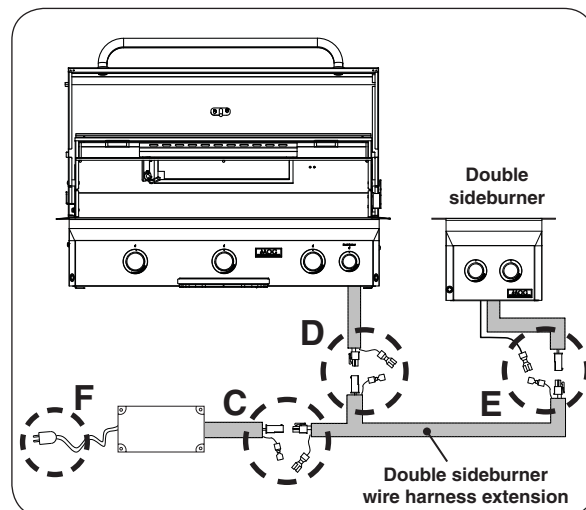

Fig. 16-3 Connect sideburner to grill setup
- Locate the end of the double sideburner wire extension that has two molex and ground connections. Connect the extension (receptacle) molex connection to the power supply (plug) molex connection and ground wires (See Fig. 16-3, **C**).
- Connect the extension (plug) molex to the grill (receptacle) molex connection and ground wires (See Fig. 16-3, **D**).
- Connect the opposite end of the extension to the sideburner as shown in Fig. 16-3, **E** (molex and ground wire connections).
- Reconnect the power cord (see Fig. 16-3, **F**).